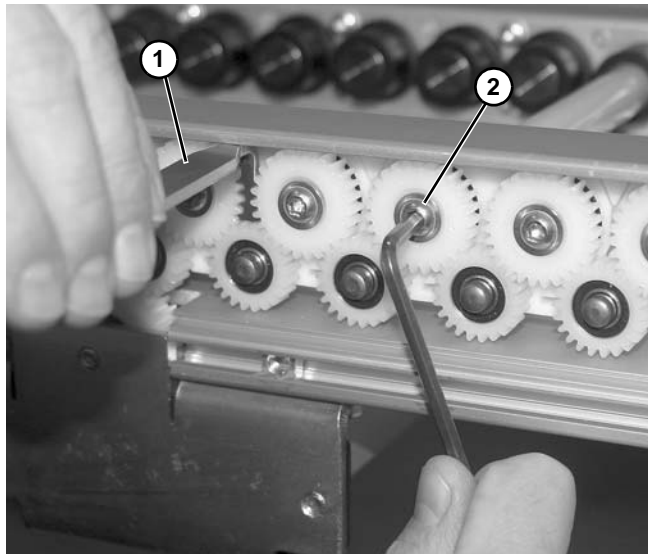

Figure 22
4. Install sprocket removal tool, part number 400571 (Figure 22, item 1) between gears.
5. Remove screw (Figure 22, item 2) holding gear onto roller shaft.